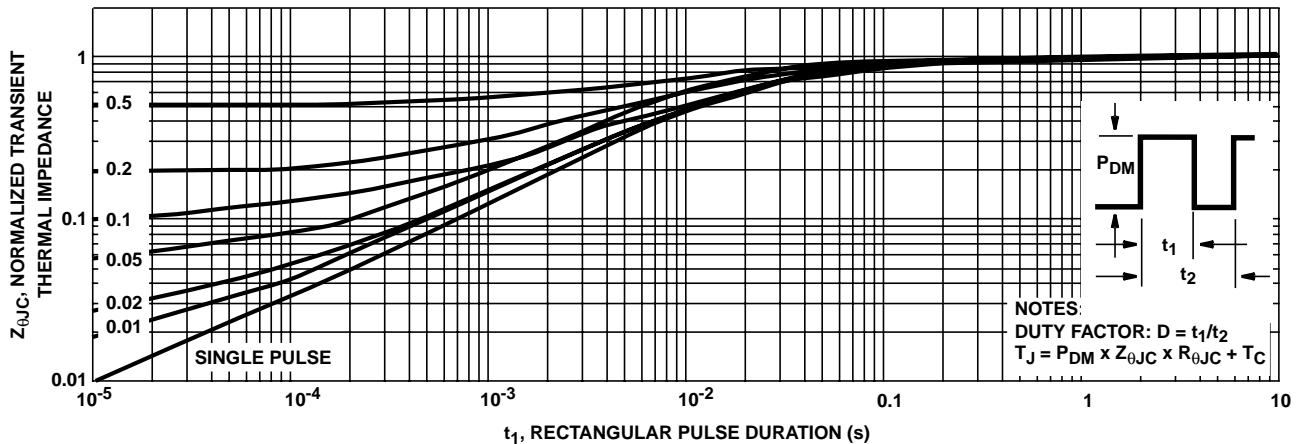

FIGURE 3. NORMALIZED TRANSIENT THERMAL IMPEDANCE
3. Repetitive rating: pulse width limited by Max junction temperature. See Transient Thermal Impedance curve (Figure 3).